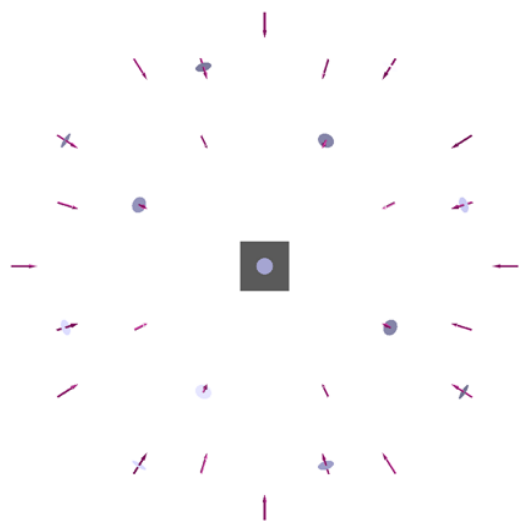

Figure 7.27 Diffuse sound field modeled as a superposition of uncorrelated planewaves.
7.2.4.2. Uncorrelated Plane Waves The diffuse field in Coustyx is modeled as a superposition of plane waves with random amplitudes directed towards the structure from all equally probable directions (refer to Figure 7.27).